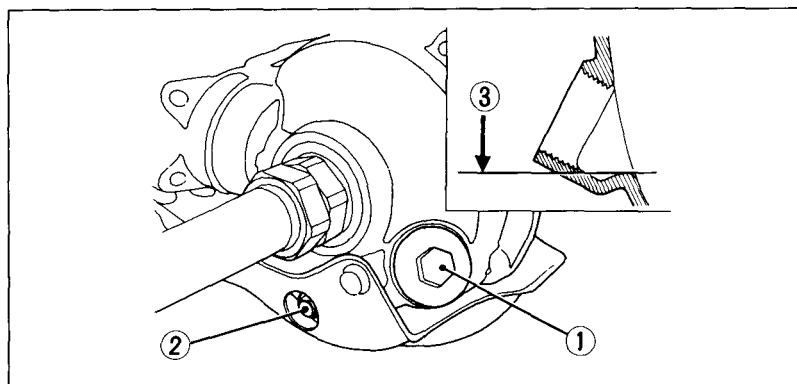

Fig. 4-14
1. To drain the oil, first place an oil drain pan under the oil drain plug (Fig. 4-14).
2. Remove the oil filler cap (1) and the drain plug (2).
4. Fill the final drive with approximately 3.3 US oz (100 cc) of the recommended oil. Make sure the oil fills up to the lower edge of the filler hole (3).